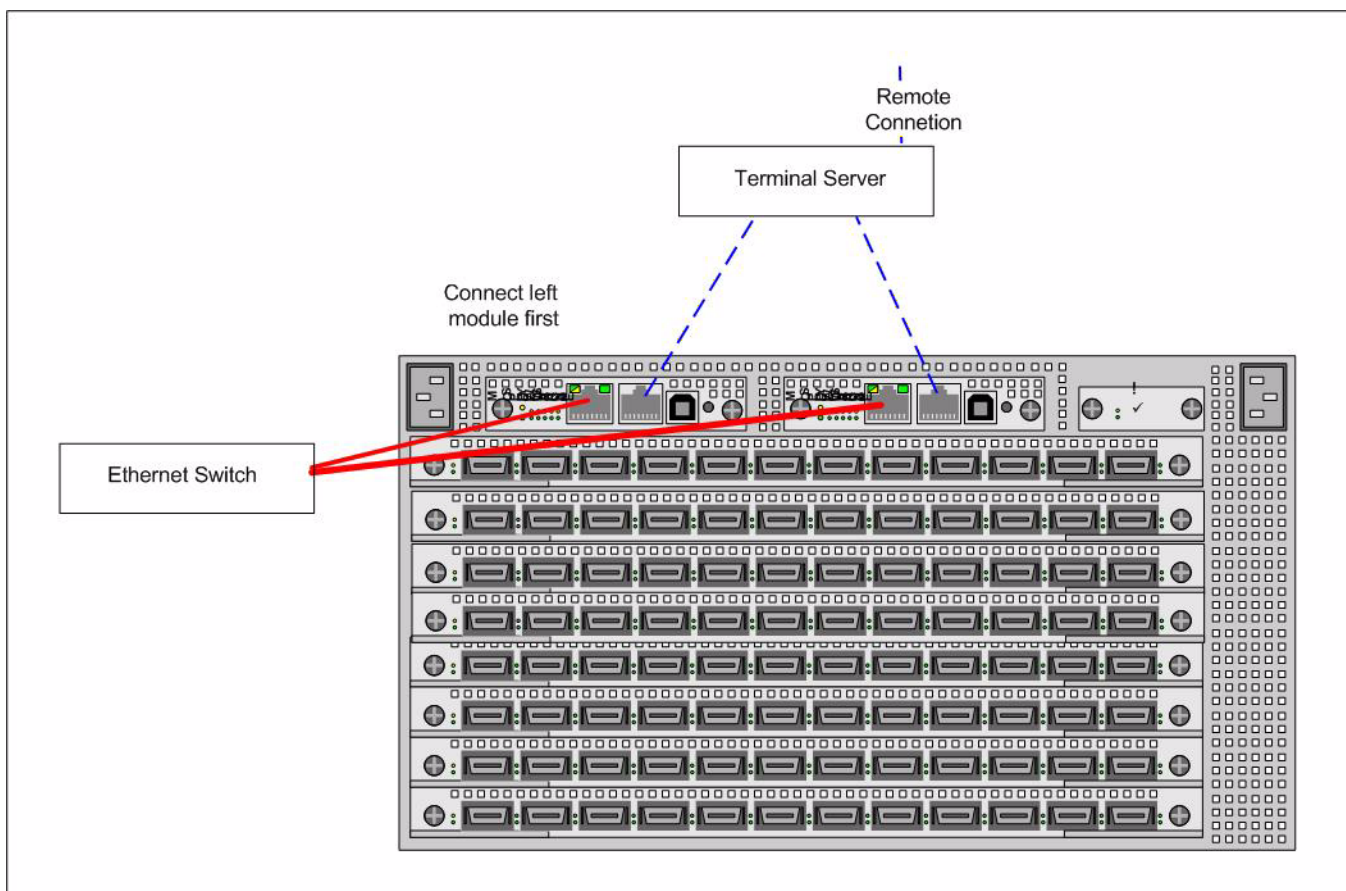

Figure 2-7: Recommended Management Configuration
1. Attach the RJ-45 console cables from the cable kit that is provided. See Figure 2-7.
3. Connect an Ethernet cable to the Ethernet port of the left Management Interface module (slot number 15). See Figure 2-7.